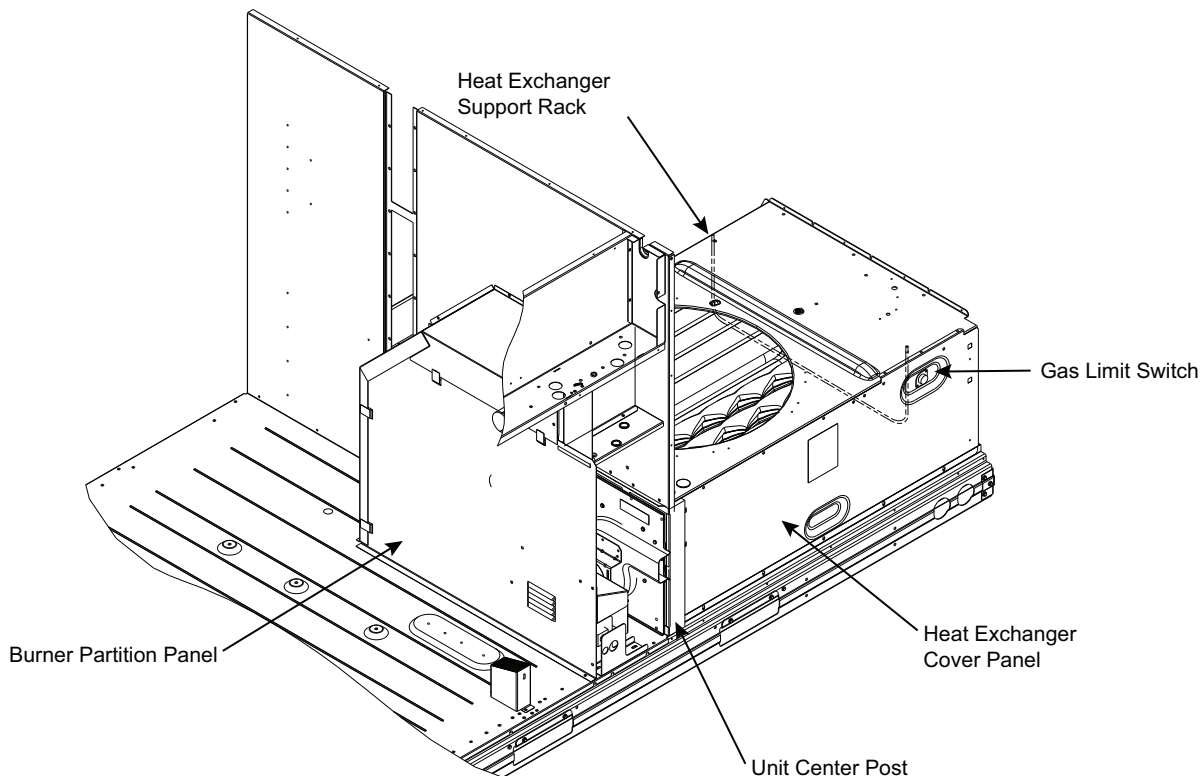

Fig. 57 — Heat Exchanger Access - Internal Panels, Center Post and HX Rack Locations
1. Remove the screw at the base of the burner partition panel (see Fig. 57) and slide out the panel.
5. Remove the screw at the base of the burner partition panel (see Fig. 57) and slide out the panel.
3. Remove the unit center post (see Fig. 57).
Remove the indoor blower access panel. Limit switch is located on the heat exchanger cover panel. See Fig. 57.